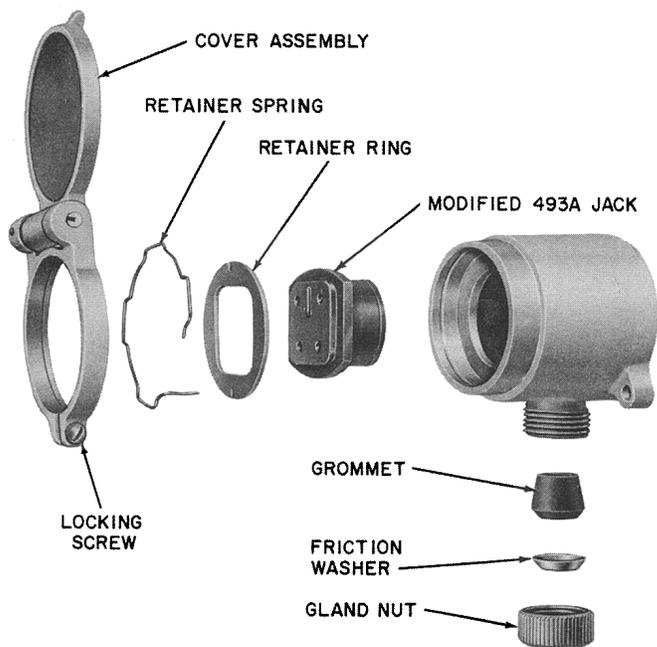

Fig. 23 — Assembly of KS-16151, List 1 Jack
**2.23** The KS-16151, List 1 jack (Fig. 23) is Manufacture Discontinued (MD) and is replaced by the KS-19316 series weatherproof housings (3.07).